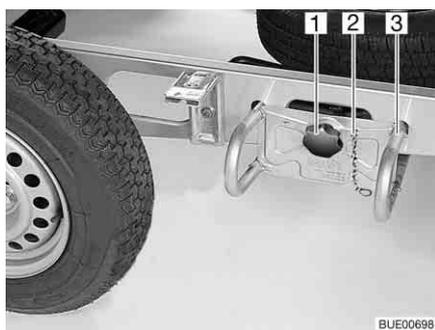

Fig. 222 Spare wheel support
- Unhook the safety chain (Fig. 222,2).
- Loosen and unscrew the star handle (Fig. 222,1).
- Pull out the spare wheel support (Fig. 222,3) about 10 cm and place it on the ground.